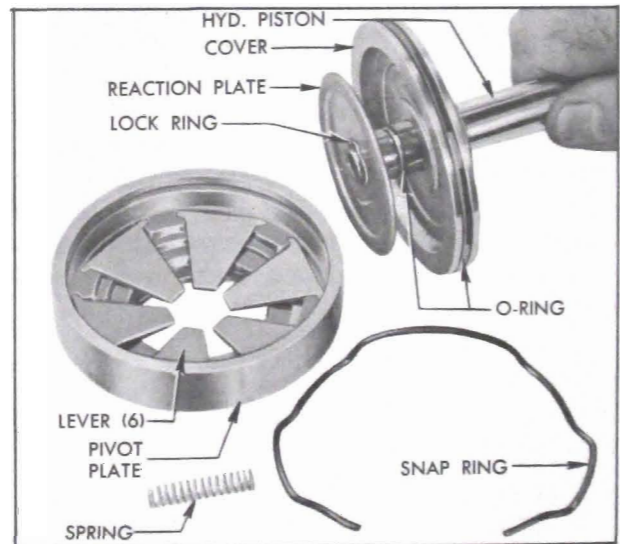

Figure 9-21—Hydraulic Piston and Attached Parts
10. Remove air valve return spring from bore of hydraulic piston. Remove snap ring, lift piston with cover out of pivot plate, and remove reaction levers. Remove snap ring, reaction plate, and cover from piston. See figure 9-21.